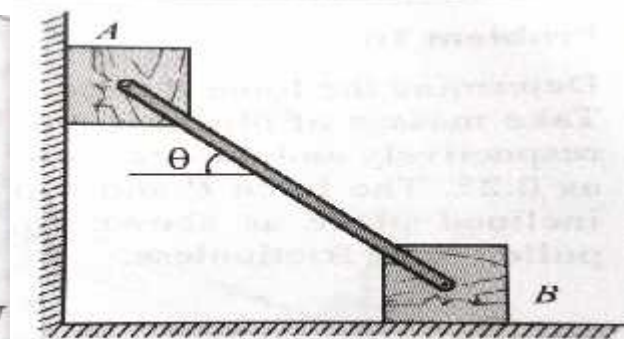

fig:4
4. The two identical blocks A and B are connected by rod and rest against vertical and horizontal planes as shown in fig:4. If sliding impends when $\theta = 45^\circ$, determine coefficient of friction μ . Assuming it to be the same for both floor and wall.